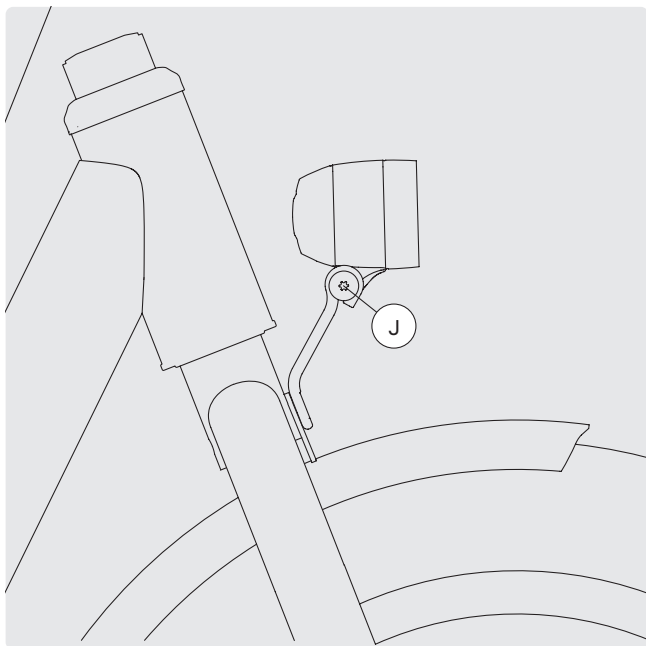

FIG. 47
- 1 Loosen the adjustment screw J on the front light. (Fig. 47).